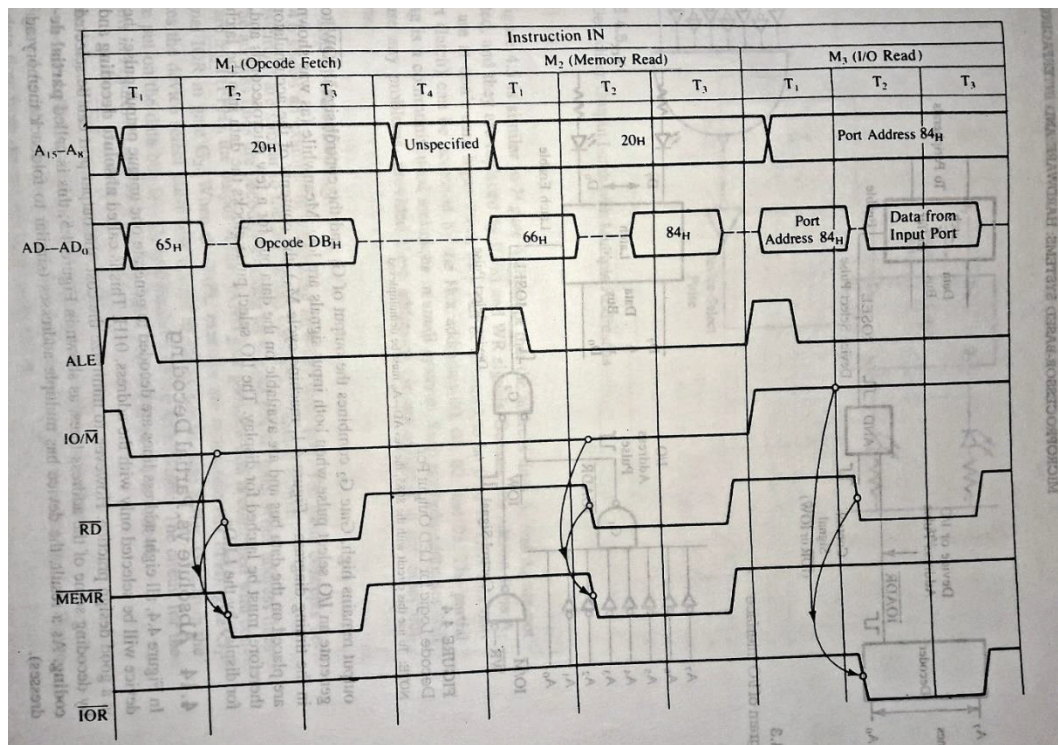

Figure 4.2:- 8085 Timing for Execution of IN Instruction
Machine cycles M₃ (Figure 4.2) is similar to the M₃ cycle of the OUT instruction; the only differences are (1) the control signal is $\overline{RD}$ instead of $\overline{WR}$ and (2) data flow from an input port to the accumulator rather than from the accumulator to an output port.